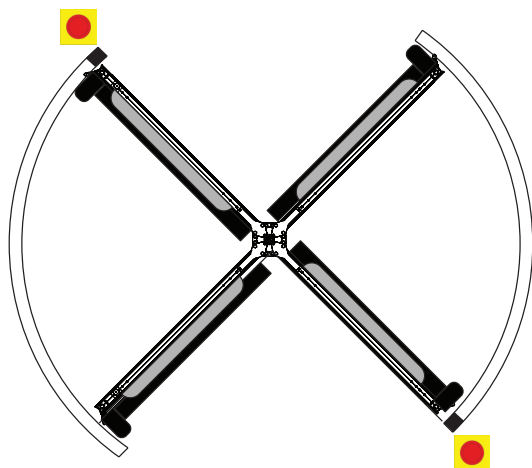

Fig. 22 Emergency stop switch (example)
1. Press the emergency stop switch (Fig. 22/1) at the entrance or exit.